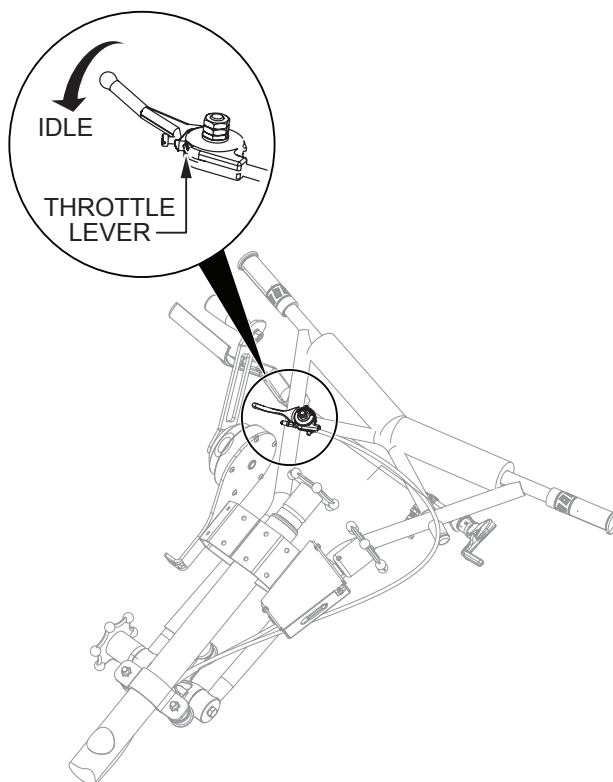

Figure 42. Throttle Lever (Idle)
3. Place the throttle lever in the **IDLE** position (Figure 42).